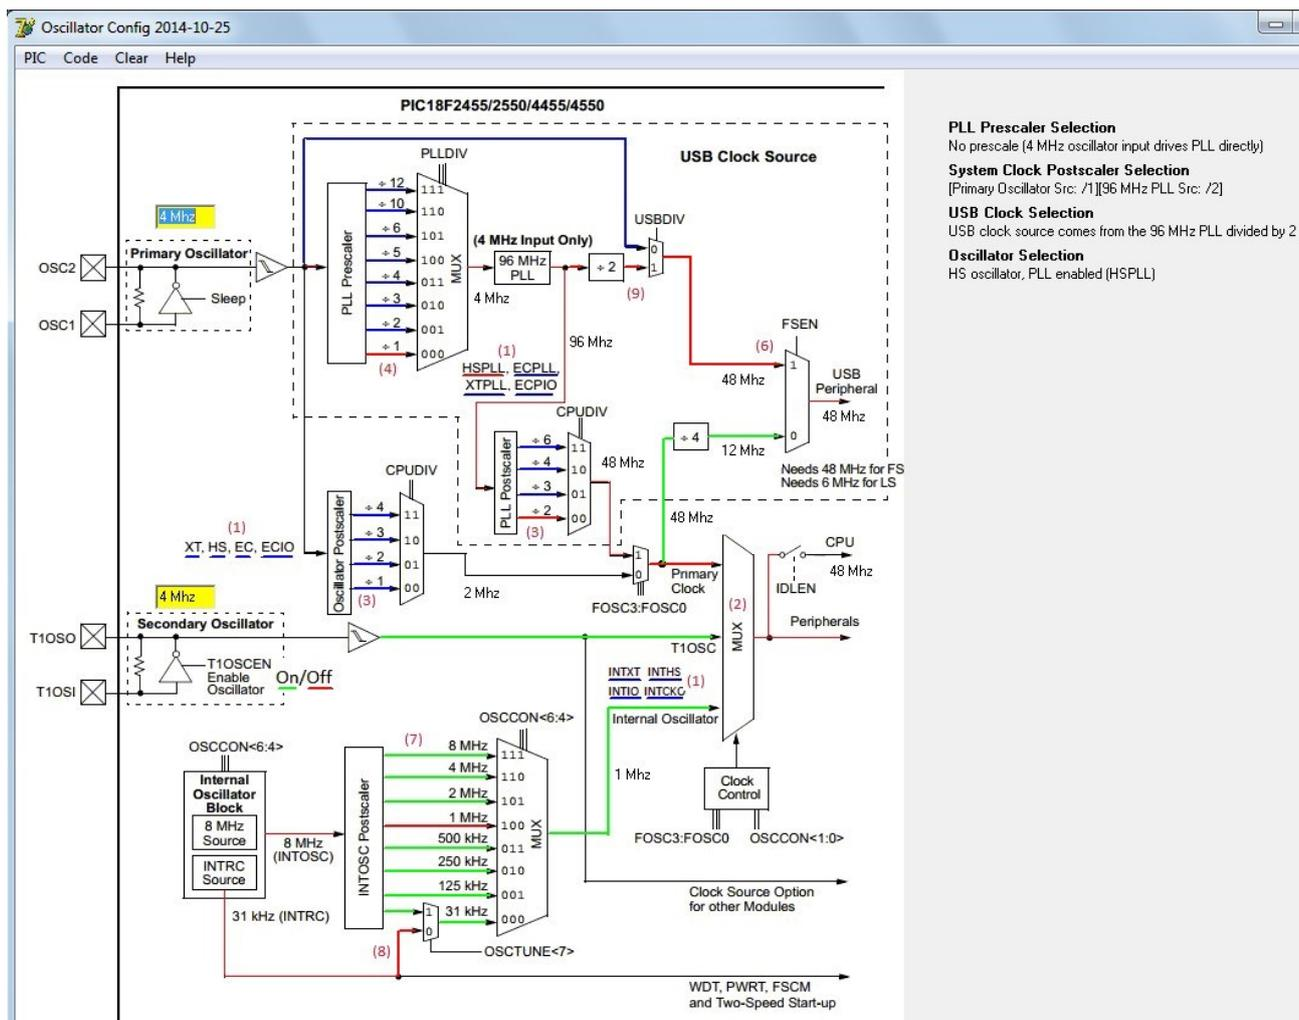

Figure 2
This is the code generated according the "register type" selections made in the oscillator block diagram (see Figure 2). The code may contain, in the line comments, the sentence part "(default)". The latter means that this is the state after a PIC reset. So, if the code is only used at startup of the program, then those "default" lines can be left out. See section 4.6 also.
- ➔ The bracketed numbers – e.g. (1) - used in the list above can also be found (if appropriate) in the oscillator block diagram – in red- , see Figure 2 for the PIC18F2550 family.
- ➔ for some activities several different zones in the block diagram can be of importance, especially for action (1), the oscillator type selection.